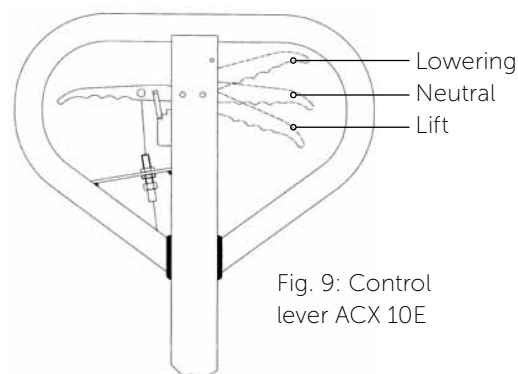

Fig. 9: Control lever ACX 10E
Adjust the control lever if necessary as follows (Fig. 9):
- If the control handle is in the "Lower" position and the forks do not move down, turn the adjusting nut on the setscrew clockwise until you achieve the corresponding effect for the handle position. Now check the "Neutral" position in accordance with Fig. 9 and ensure the position of the adjusting nut is correct.